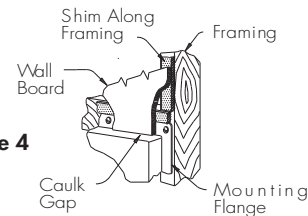

Figure 4
- Finish wall board as detailed in Figure 4.